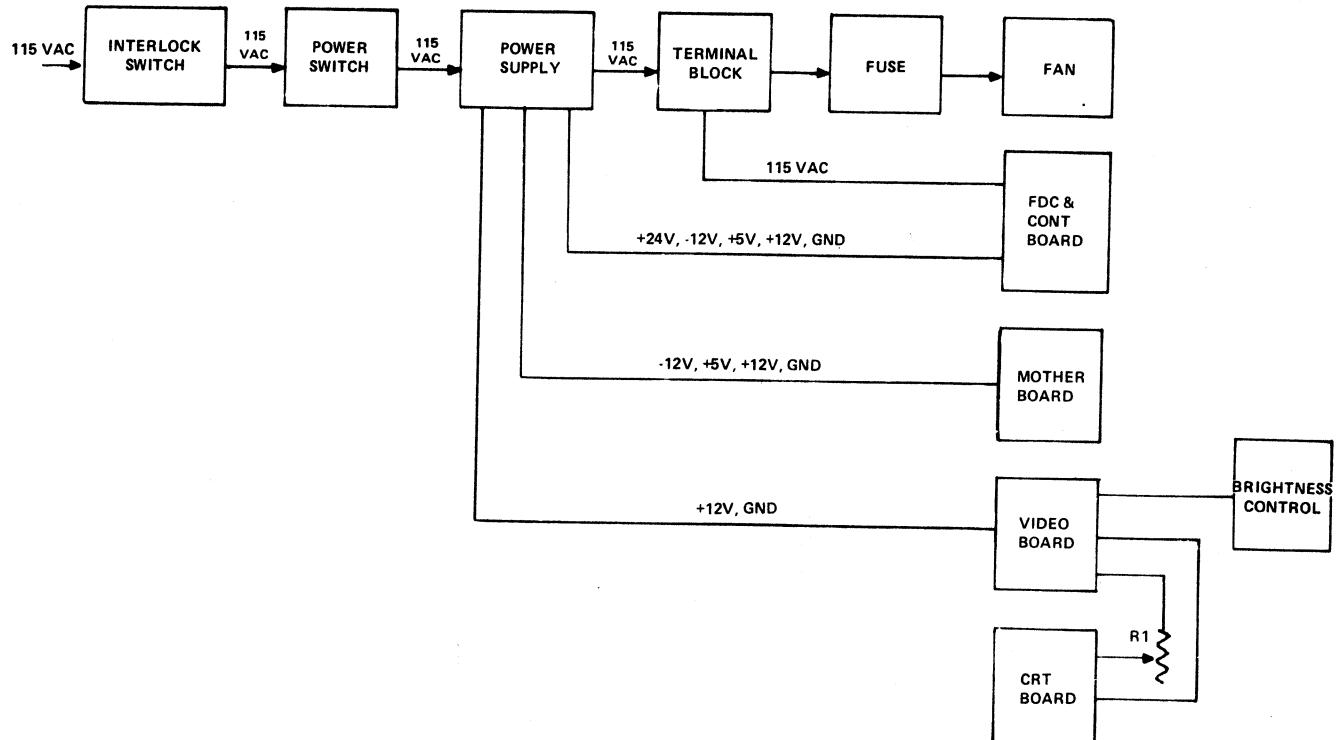

Figure 2. TRS-80 Model II Power Distribution Block Diagram
3. Power Supply: (Refer to Figure 2.)